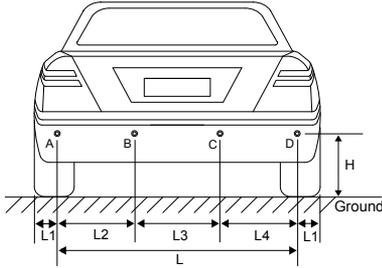
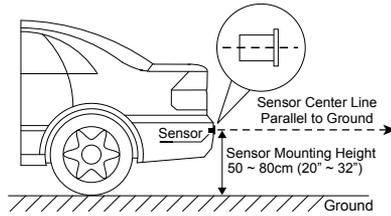

Fig.1 Mounting Height and Position (Rear Sensors)
Fig.3 Mounting Height and Angle of Sensors
IMPORTANT: (a) *To avoid false alert from the system detecting the ground and for best obstacle detecting results, the suggested sensor mounting height is between 20" to 32" (0.5m to 0.8m) above the ground and the face of the sensors need to be vertical or slightly upward angled (Fig. 3).* (b) *Horizontally, the sensors may be equally spaced if possible or symmetric to the center of the bumper (Fig. 1 and 2).* (c) *For better corner coverage, the outer two sensors may be mounted about 5.9" (0.15m) from the corner of the bumper (Fig. 1 and 2).* (d) Adjustments to the sensors mounting positions may be needed for your specific vehicle.
- a) **Start with the front sensors, and then the rear sensors.** Refer to Fig. 1 and 2 for the recommended mounting height and position of the front and rear sensors.